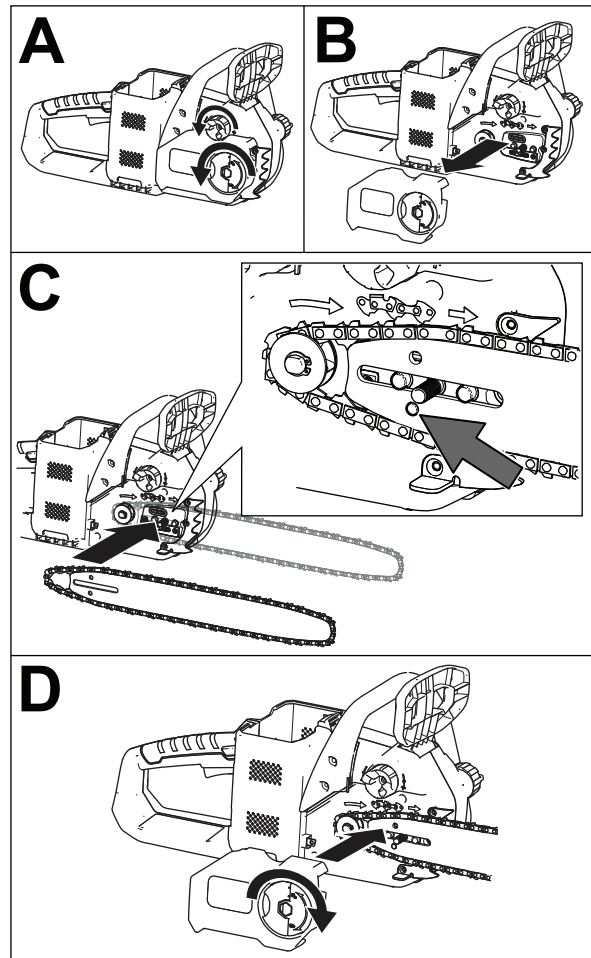

Figure 32
12. Position the open loop of the chain (not on the guide bar) around the drive sprocket on the chain saw and install the guide bar and attached chain onto the chain saw as shown in Figure 32.